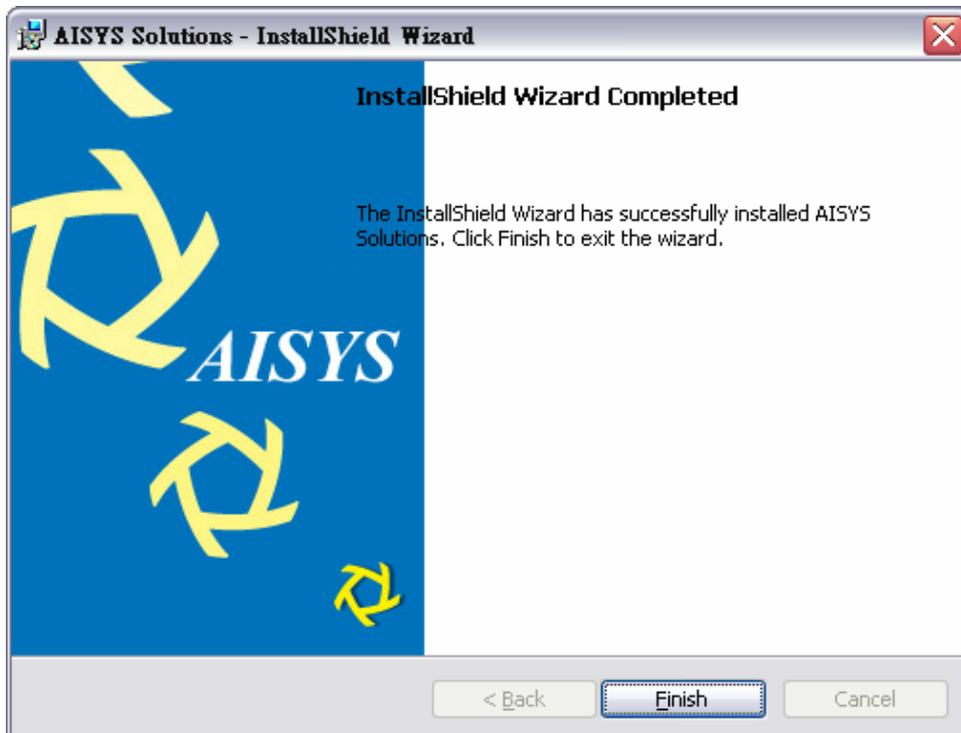

Figure 7.
7. Press the button “Finish” to finish the installation as shown in Figure 7.